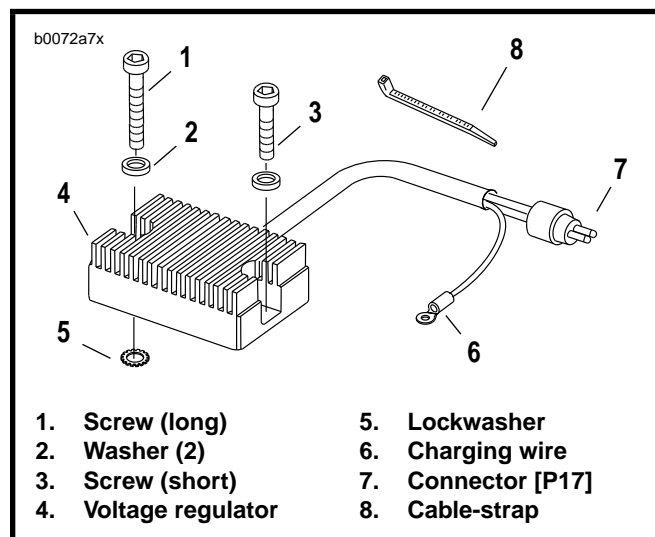

Figure 7-30. Voltage Regulator
4. See Figure 7-30. Remove screws (1, 3), washers (2) and lockwasher (5). Detach and remove groundstrap from long screw (1).
5. Remove and discard voltage regulator (3).
1. See Figure 7-30. Install **new** voltage regulator with longer screw (1) next to battery. Attach groundstrap under voltage regulator mount.